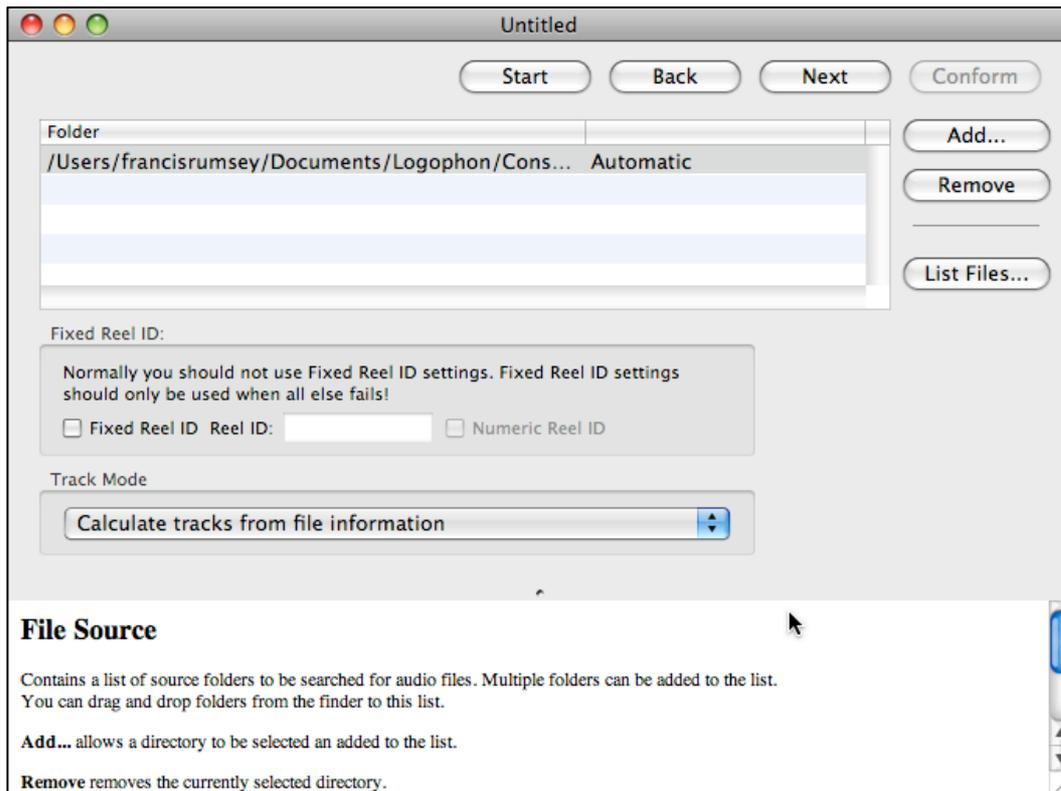

Figure 10 File Source selection window
- If you are following the example the window will now look something like that shown in Figure 10, depending on the location of your source files.